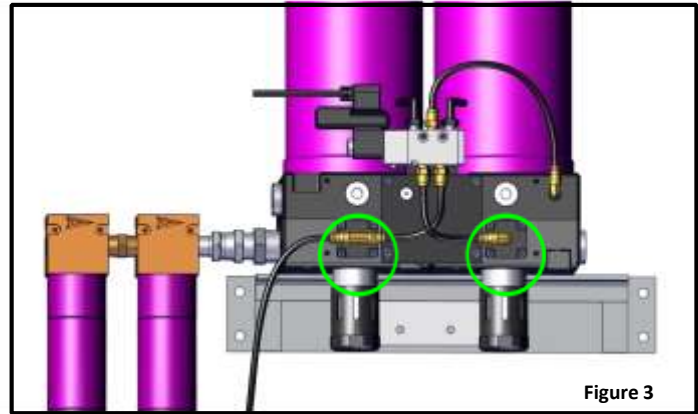

Figure 3
3. Disconnect tubing from quick-connect fitting located on piston cover. Push in on brass ring. While holding ring in, pull out tubing. *Figure 3*
13. Reconnect tubing to quick-connect fitting located on piston cover. *Figure 3*